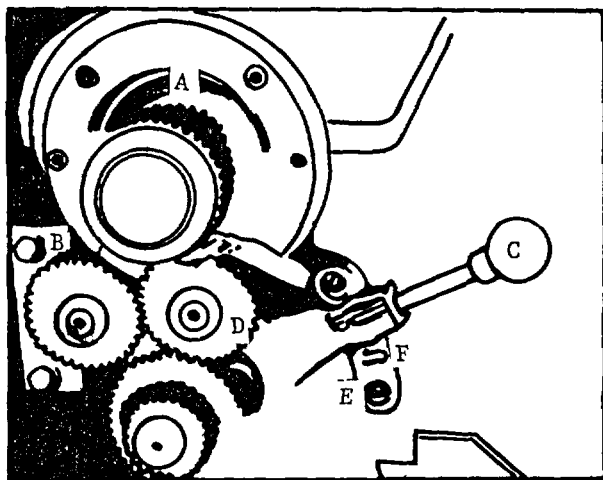

Fig. 23.
To establish back-lash between gears (A) and (B) Fig. 23, when the feed reverse lever (C) is in the up position, and between gears (A) and (D) when the feed reverse lever is in the down position, proceed as follows:
1. Place a strip of wrapping paper between gears (A) and (B) Fig. 23, and place the feed reverse lever in the up position.
3. If an adjustment is necessary, loosen two screws Fig. 23, and move the bracket (F) until the desired back-lash is obtained. Then tighten two screws (E).
4. When proper back-lash between gears (A) and (B) Fig. 23 is obtained, proper back-lash will automatically be obtained between gears (A) and (D).